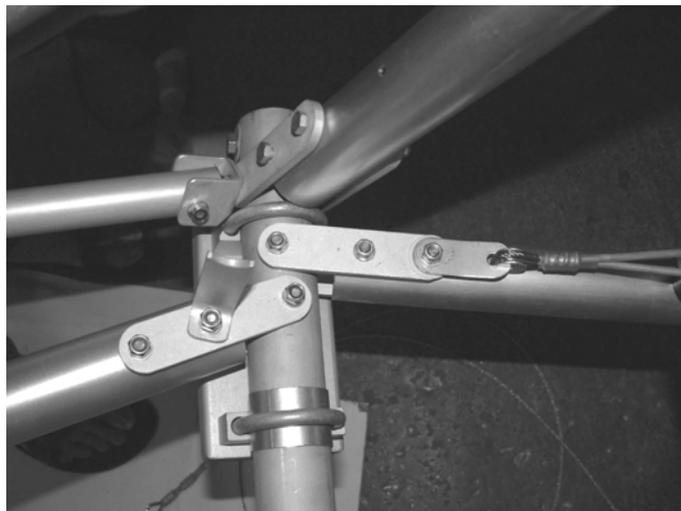

Figure 78; main gear leg mounting.
- c) Fit the undercarriage legs to the main undercarriage cross-beam **tu9** using a pair of U-clamps and spacer pieces per side, Figure 78.